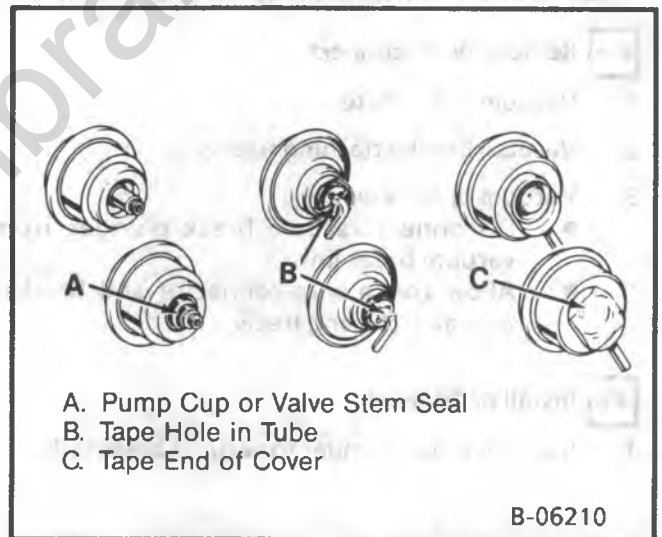

Figure 9 – Plugging Vacuum Break Bleed Holes
Vacuum Break Functional Check (Figures 9, 10)
- If the vacuum break has an air bleed hole, plug it as shown during this procedure (Figure 9).